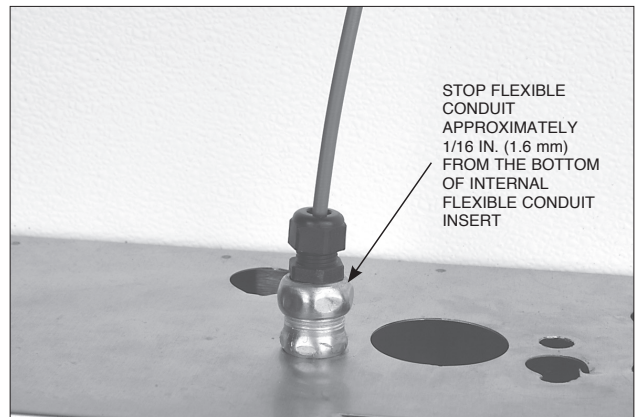

FIGURE 5-60
9. Slide the flexible conduit into the strain relief until it is approximately 1/16 in. (1.6 mm) from the bottom of the flexible conduit insert. See Figure 5-60.